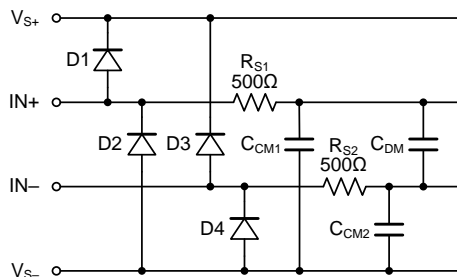

Figure 1. Input EMI Filter and Clamp Circuit
Figure 1 shows the input EMI filter and clamp circuit. The LTC8705/8706/8707/8708 comparators have internal ESD protection diodes (D1, D2, D3, and D4) that are connected between the inputs and each supply rail. These diodes protect the input transistors
Infrared (IR) communication is inherently immune to RF interference as long as there is a line-of-sight path between the transmitter and the receiver. It is also one of the lowest cost communication schemes. This makes it a good choice for implementing wireless communications in applications such as utility metering. A common system topology to extend battery life is to use a power efficient IR receiver analog front end (AFE) that is always on and wakes up the host only when there is a valid IR signal detected as shown in Figure 1.
Figure 1 shows the IR receiver system block diagram. The host MCU is normally in the shutdown mode (during which the quiescent current is less than 1 μA) except when data is being transferred.